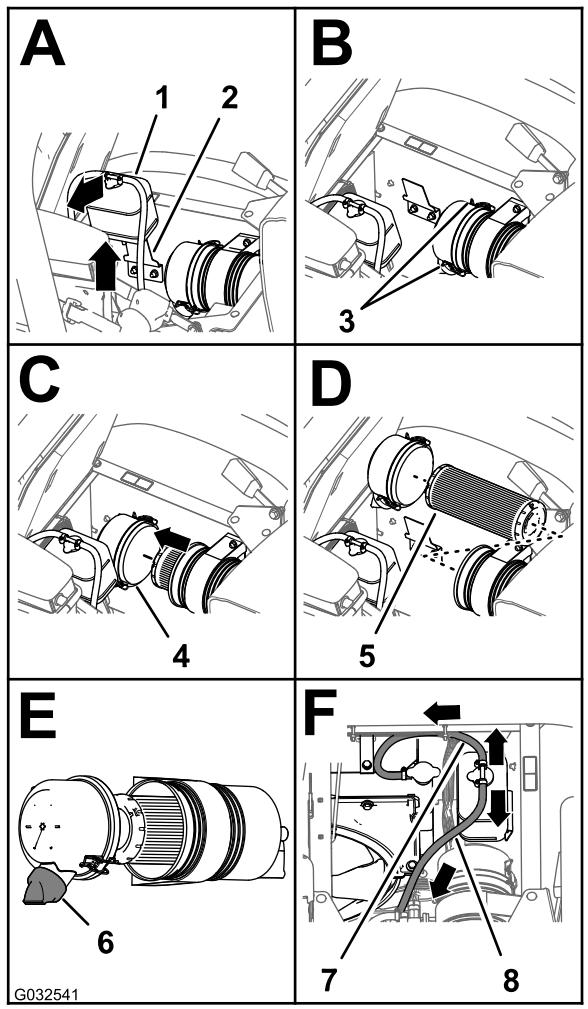

Figure 72
3. Lift the coolant-overflow tank up and off the tank-support bracket (Figure 72).
4. Loosen the 2 latches that secure the dust cap to the air-cleaner body (Figure 72).
6. Clean the inside of the dust cap, air-cleaner body, and dust valve with a damp rag (Figure 71 and Figure 72).
7. Insert the air-filter element into the air-cleaner body (Figure 72).
8. Install the cover onto the air-cleaner body and secure the cover with the 2 latches (Figure 72).
Note: Ensure that the dust valve is aligned between the 5 to 7 o'clock position when viewed from the end (Figure 72).
9. Align the coolant-overflow tank to the tank-support bracket and seat the tank firmly (Figure 72).
Important: Ensure that the pressure-relief hose is routed forward and down, and the tank-vent hose is routed rearward as shown in Figure 72.